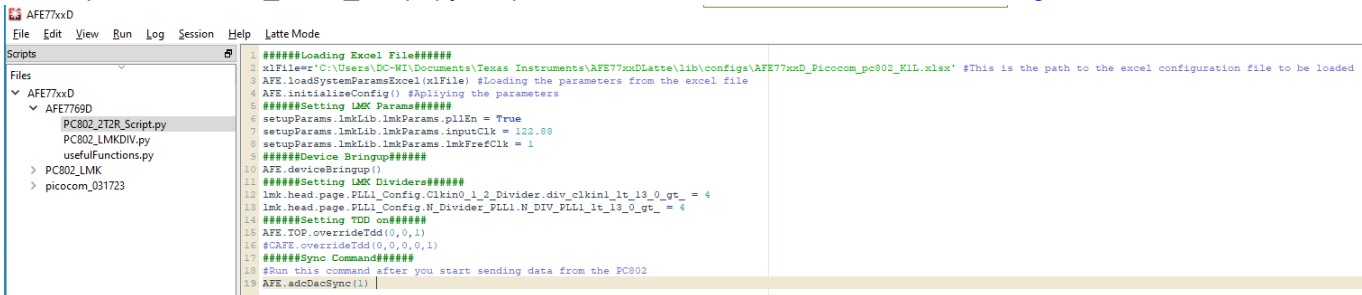

Figure 3-6. RNS802 Script
4. Open the PC802_2T2R_Script.py script on the tree view on the left as shown in Figure 3-6.